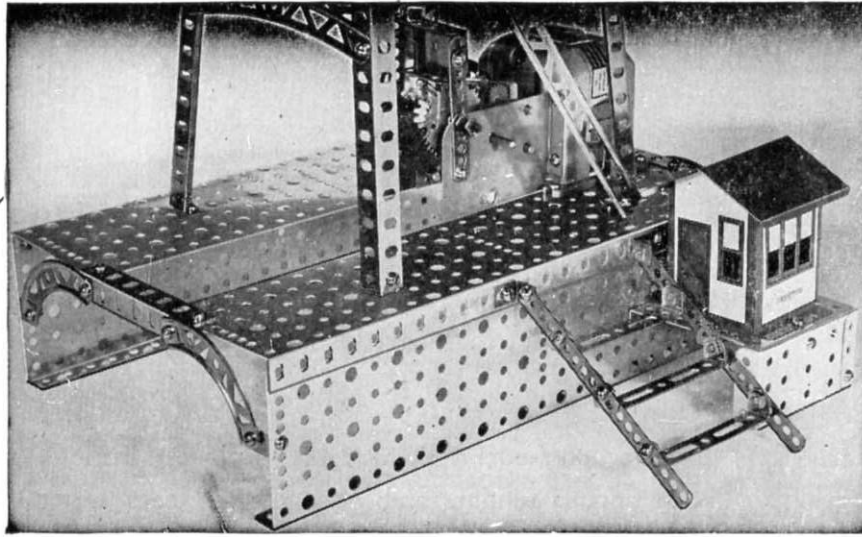

FIGURE 2
This is a very simple model to build but it has its difficulties. The base for the model is built with four (MN) 12" base plates as shown in Figure 2.
The base plates are assembled, two to each side and are spaced apart the width of an (MO) 3" angle girder as shown in Figure 2. For bracing, (D) 2-1/2" curved girders are used. These are fastened to the 3" angle girder and to the vertical base plate with (CH) right angles.